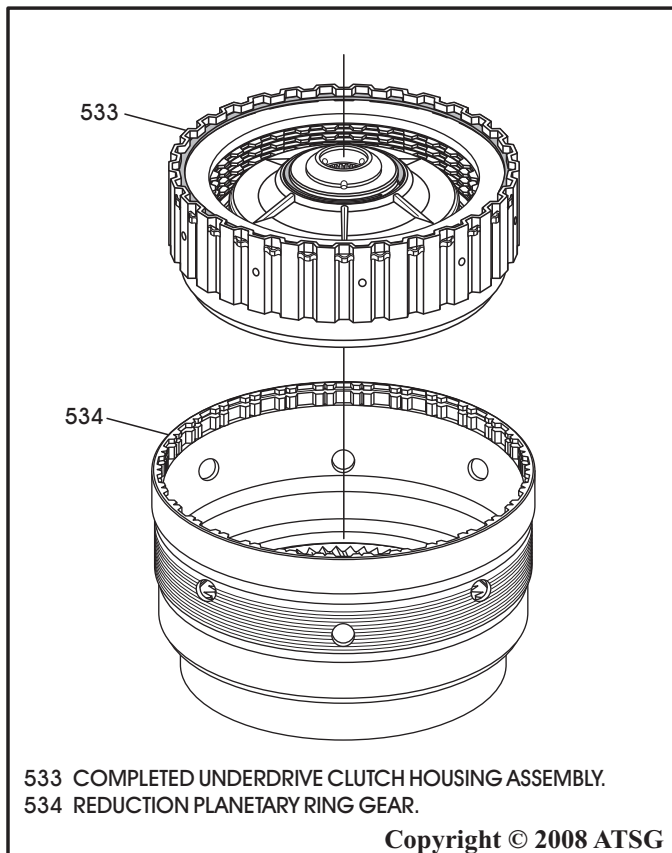

Figure 127
20. Place the reduction planetary ring gear on flat work surface, as shown in Figure 127.
21. Install the completed underdrive clutch housing inside of the reduction planetary ring gear, as shown in Figure 127.